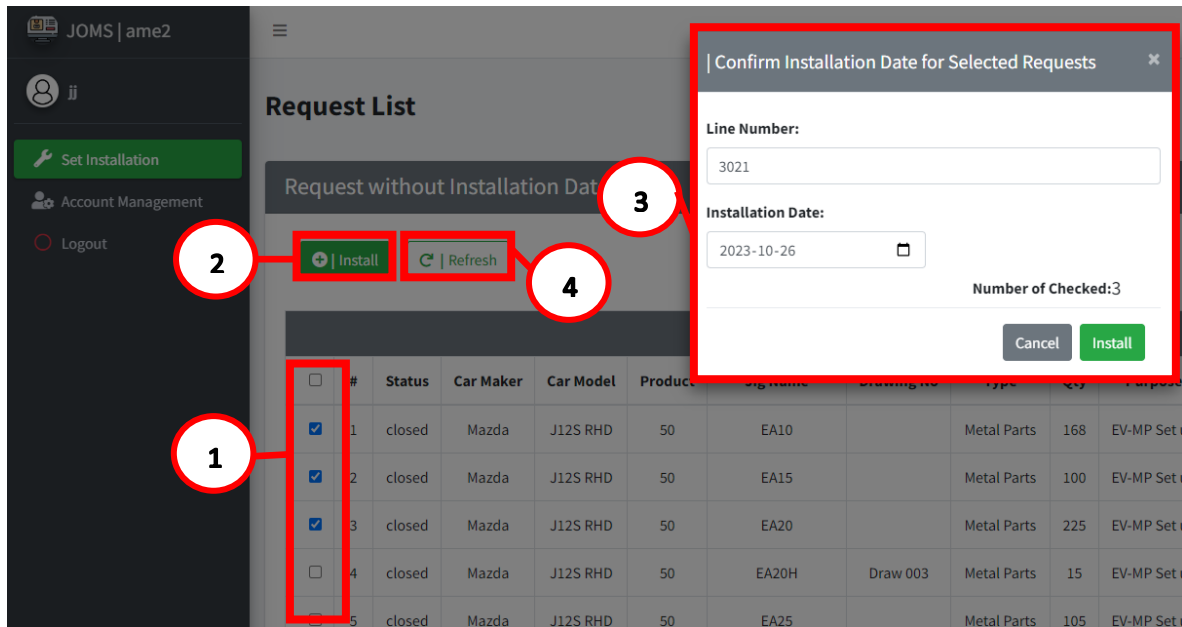

Figure 3.2
1. To Installation of date, **select the checkbox** that corresponds to the item you wish to install (See Figure 3.2).
2. Click the **Install+** to pop up the Installation Date for Selected Request. (See Figure 3.2).
3. Provide the **line number** and include the **date of Installation**, click the confirm button. (See Figure 3.2).